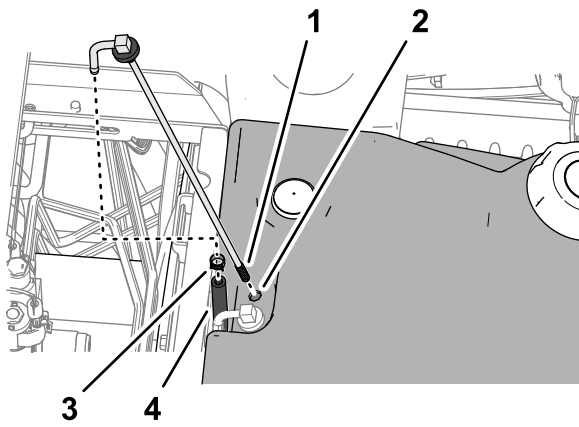

Figure 75
3. Remove the clamp that secures the hose to the fuel pick-up tube (Figure 75).
5. Clean the screen at the end of the fuel pick-up tube (Figure 75).